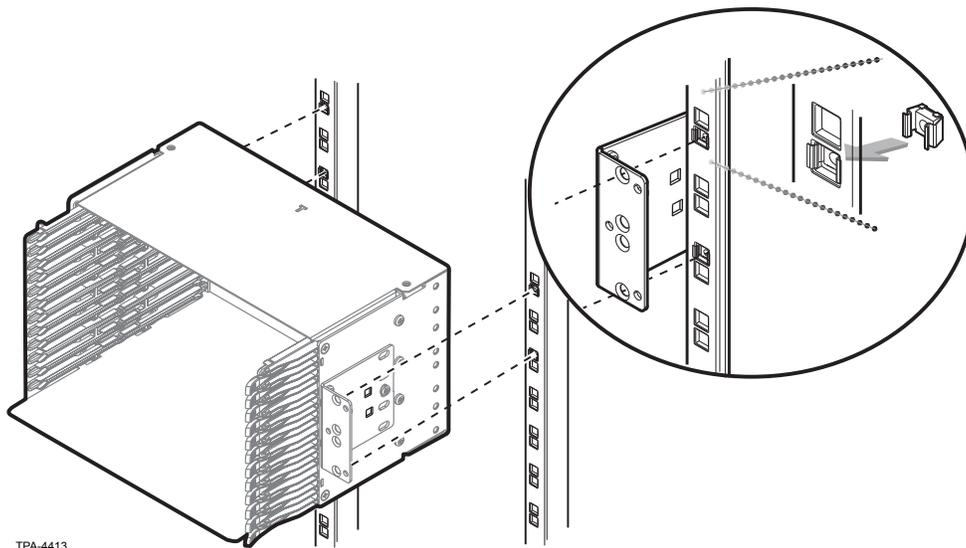

Figure 7
- Step 1:** Position the housing for installation into the front access frame (Figure 7) as described in SRP 003-948.